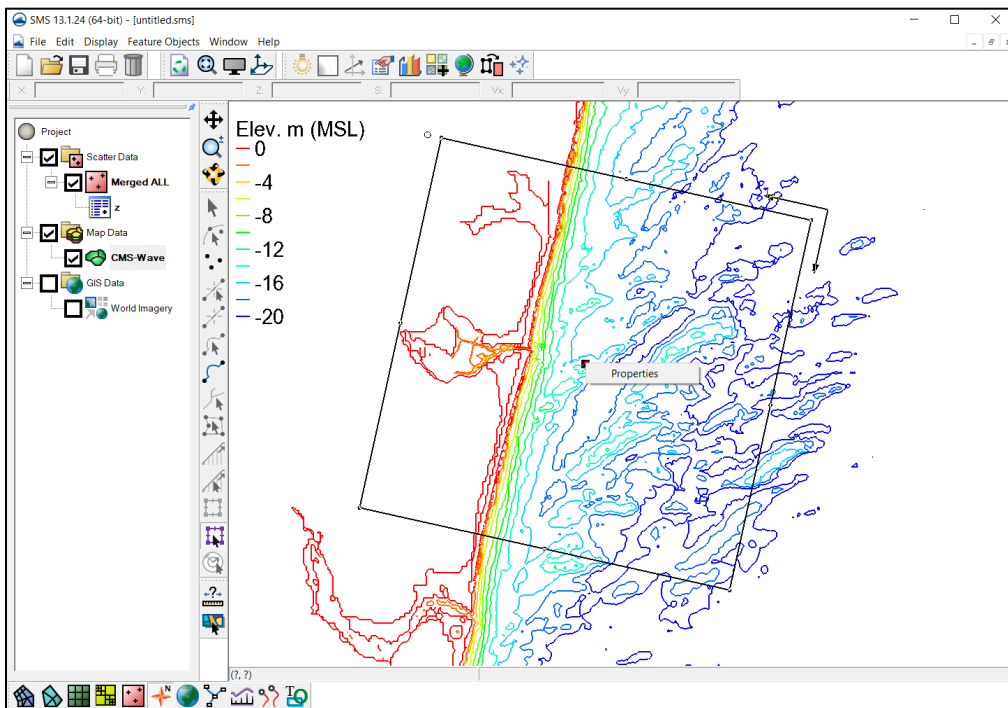
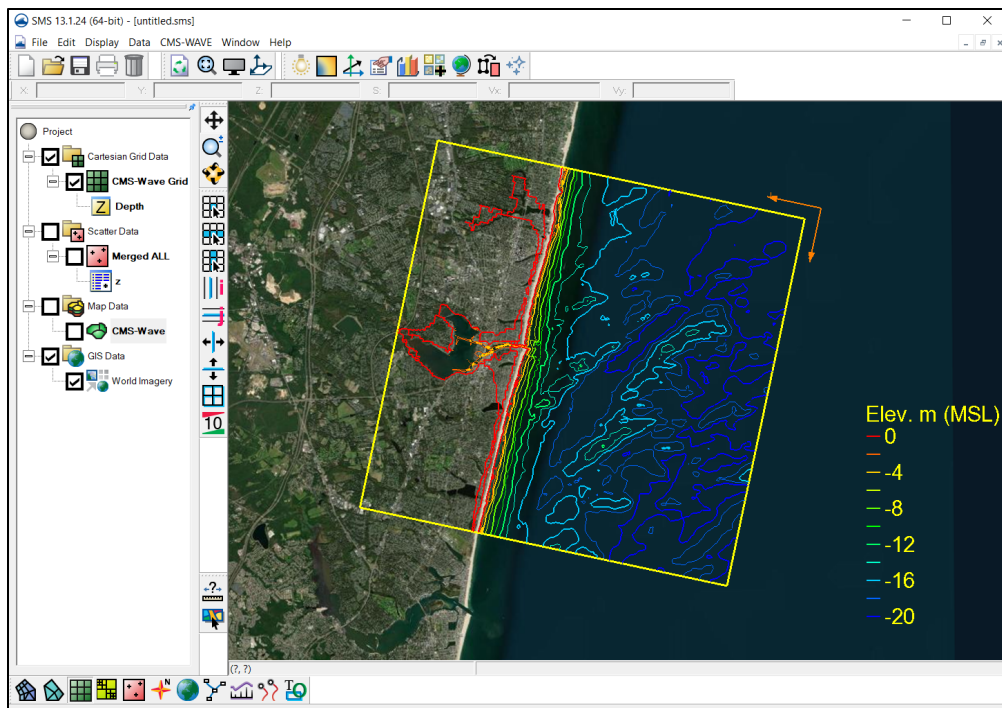

Figure 6. Display Grid Frame Properties dialog.
Figure 13. CMS-Wave grid with bathymetry contours.
- Right-Click on the middle point and click 'properties' to bring up the *Grid Frame Properties* dialog. The origin and grid angle (also the frame dimension) can be manually entered (adjusted) in this dialog. This dialog allows for greater precision in placement of the grid (Figure 6).
Figure 13 shows the CMS-Wave domain with bathymetry contours. Use Get Info dialog box (under “File”) to display the total number of cells in in the CMS-Wave grid domain, which is now 442 x 334 cells. If a constant cell size 10 m is applied, there will be 1350 x 1345 cells (Figure 6) in the same domain. Because the CMS-Wave runtime is approximately proportional to the total number of cells, it is more efficient to use the variable cells for CMS-Wave.
- The *Grid angle* is the same as the grid orientation angle specified in Figure 6 or 9 (in this case, it is “168” deg). The Spectral energy grid plane type can be either “Global” or “Local”, selected in the *Spectral energy grid plane type* drop-down menu. In this example, “Local” is specified.